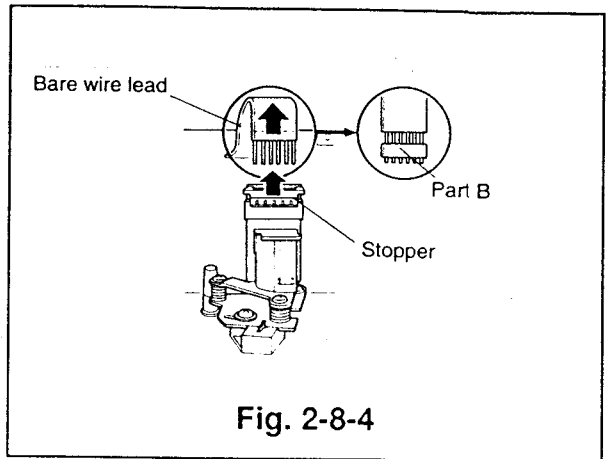

Fig. 2-8-4
- ③ Lift the stopper of the A/C head assembly in Fig. 2-8-4 slightly upward and disconnect the lead connector(bare wire), connecting the PCB-HEAD-AMP and the PCB-A/C-HEAD.
(Refer to Fig. 2-8-4)